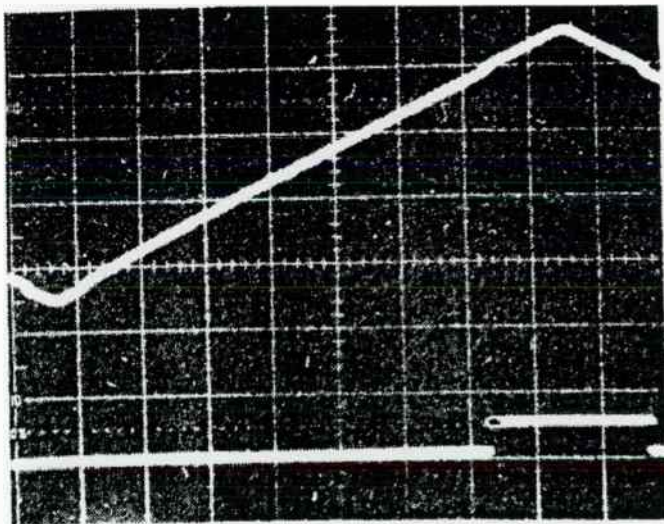

Figure 5-11
- Raise and lower the modulation until Step 6 can be seen to turn on. A small transition in the demodulated waveform may be noticed where a big step turns on. See Figure 5-11.
- If the binary alignment is proper, the transitions between big steps will be smooth. If, for instance, the 1/2 Step, B8, amplitude is too low, you will see a transition approximately halfway between Step 5 and Step 6. This is the half step transition. You may also see that there is now a transition at Step 5 and Step 6 also. See Figures 5-11 and 5-12.